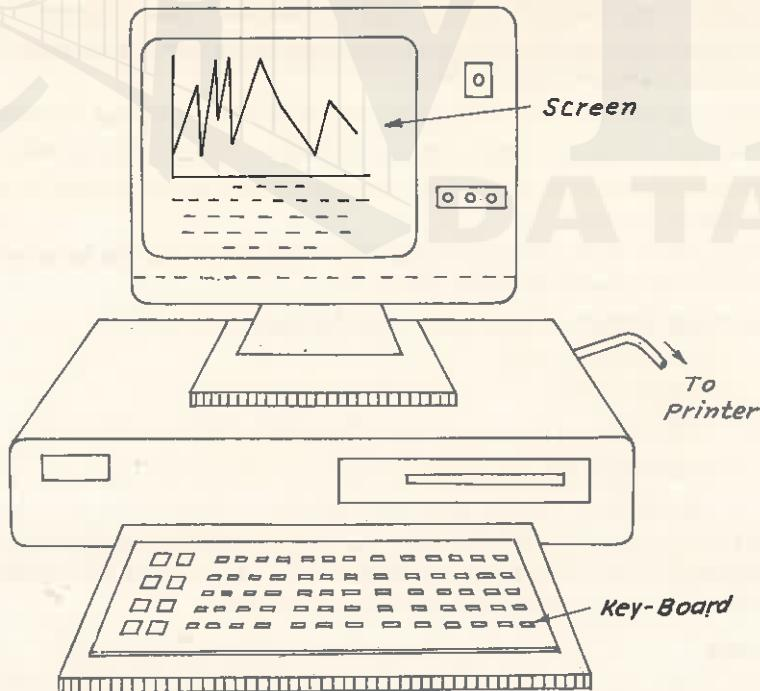

Fig. 36.2. Micro-computer.
- Micro-computers are suitable for a medium sized organisation, colleges etc. They have generally a visual display unit, key board, one or two floppy disk drives and printer (Fig. 36.2).